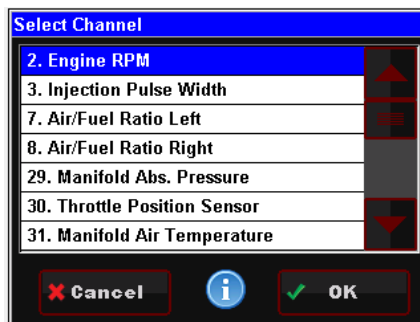

Figure 15 – List
**List:** Use the scroll bar on the right hand side of the screen to view all list entries. Touch the desired list item and click 'OK' to make a selection (**Figure 15**).